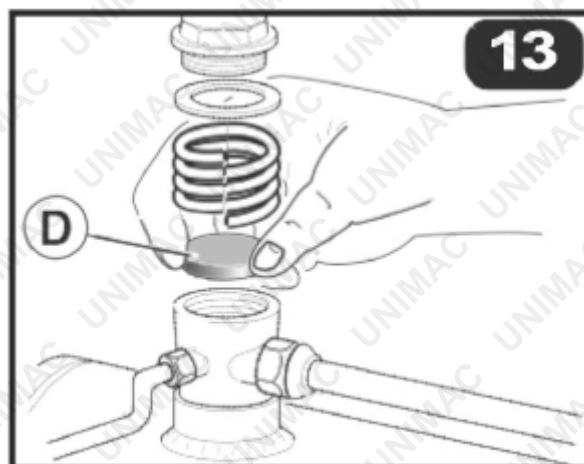

Fig. 13
Check the non-return valve and if necessary, replace the seal (D) (Fig. 13). Check intake and delivery valves.